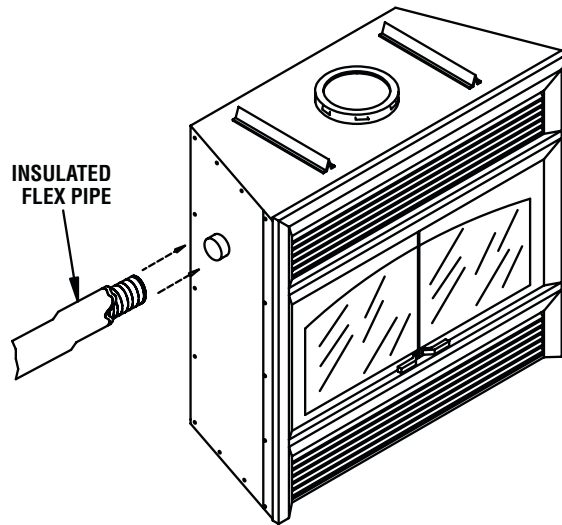

Figure 11
1. Fix the adaptor at the side of the fireplace by twist-locking the adaptor to the fireplace. You can use more than one outlet on the fireplace (**Figure 11**).